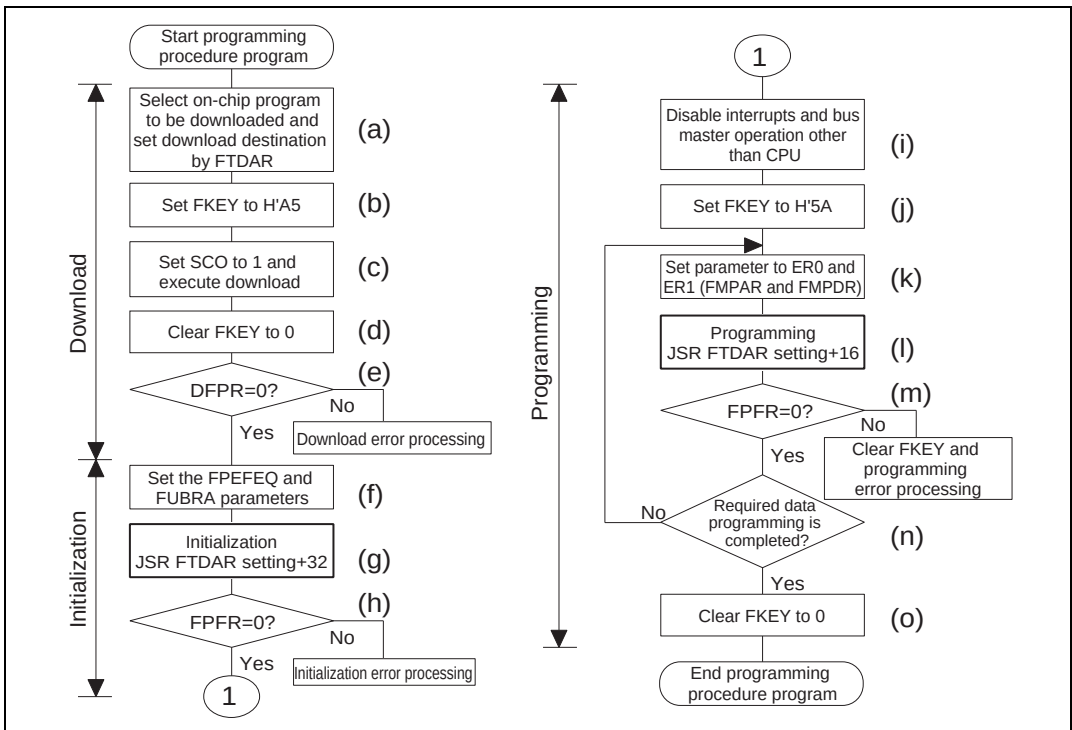

**Figure 17.70 Programming Procedure**
**Programming Procedure in User Program Mode:** The procedures for download, initialization, and programming are shown in figure 17.70.